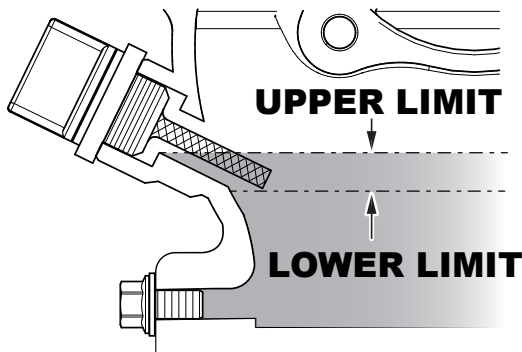

Figure 21. Engine Oil Level
4. If the oil level is low (Figure 21), fill to the edge of the oil filler hole with the recommended oil type listed in Table 5. Refer to Table 2 for maximum engine oil capacity.